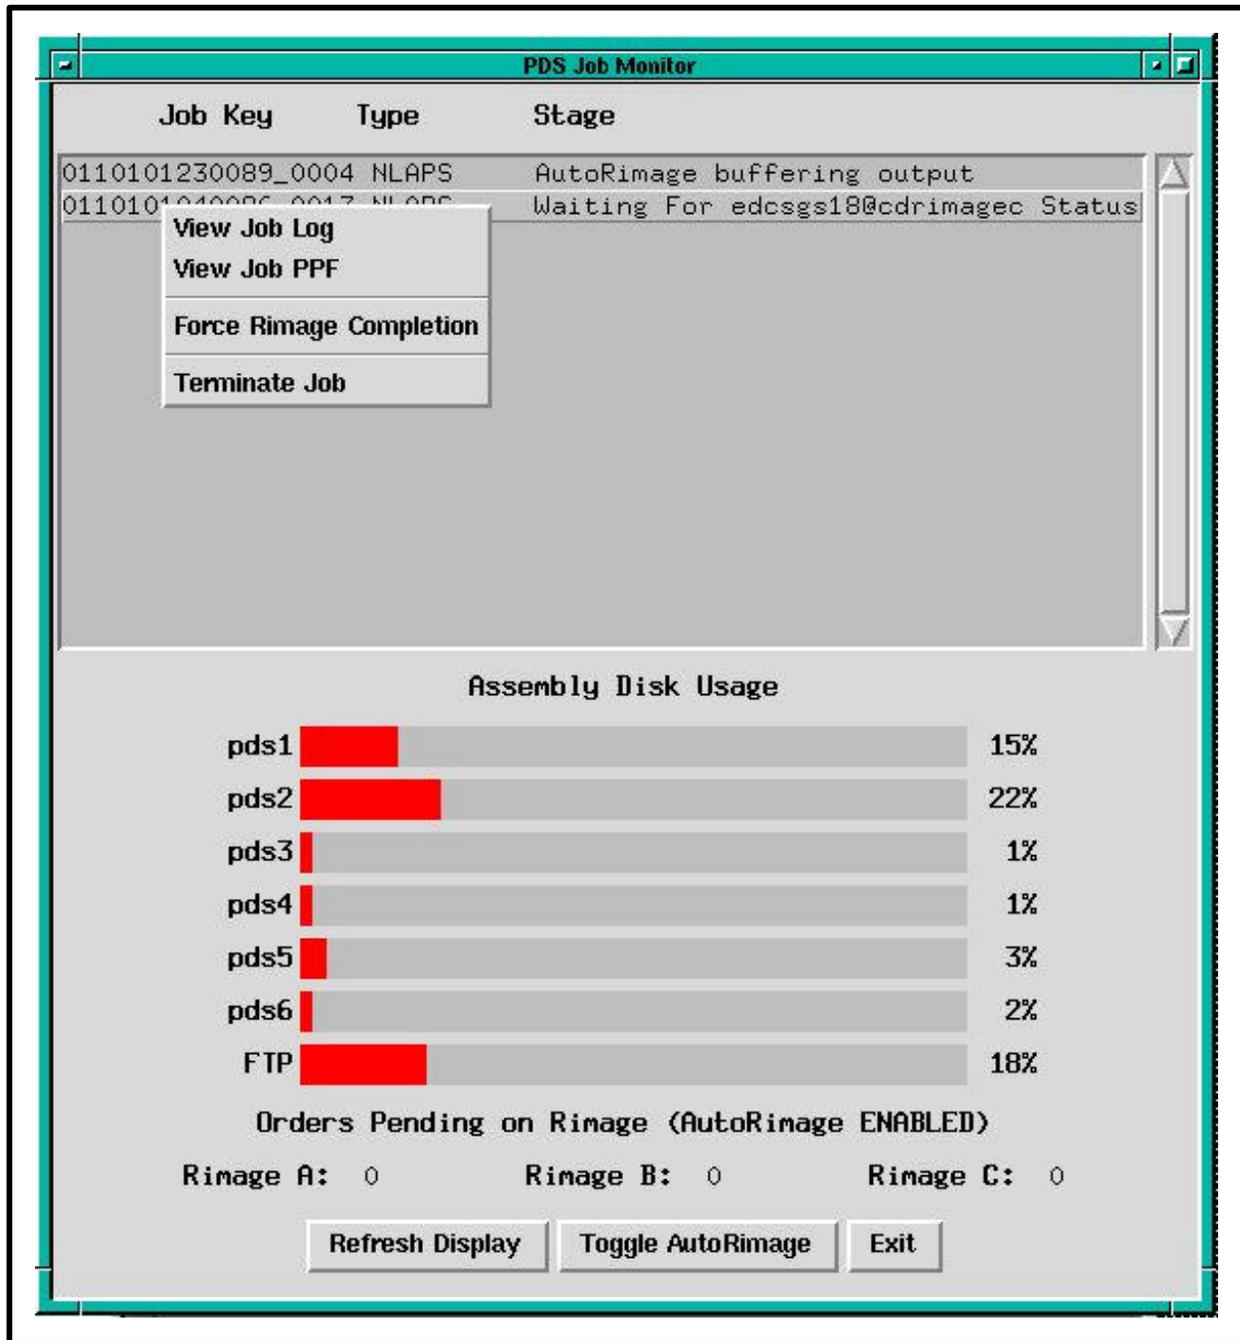

Figure 29. Job Monitor Main Window
Shutting down the PDS Job Monitor starts with the assumption that the applicable servers (e.g., the Oracle DBMS server) are running and the PDS **Job Monitor Main Window** (Figure 29) is being displayed.
- 1 Click on the **Exit** button at the bottom of the **Job Monitor Main Window** (Figure 29).
- The **Job Monitor Main Window** (Figure 29) is dismissed.